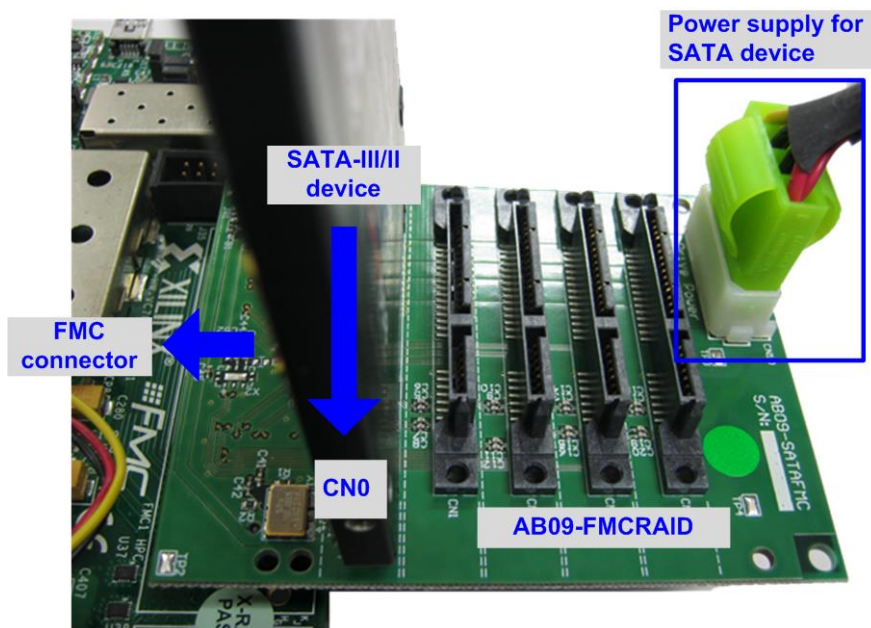

Figure 2-7 AB09-FMCRAID connection
- The connection on AB09 is shown in Figure 2-7.